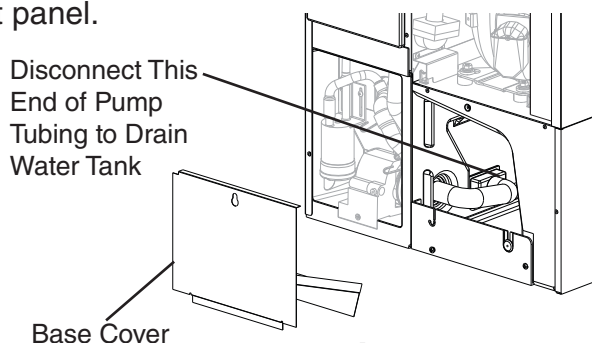

Fig. 8
- 3) Drain the water tank. remove the base cover, then disconnect one end of the pump tubing to drain the water tank. See Fig. 8. After the water tank has drained, reconnect the pump tubing.